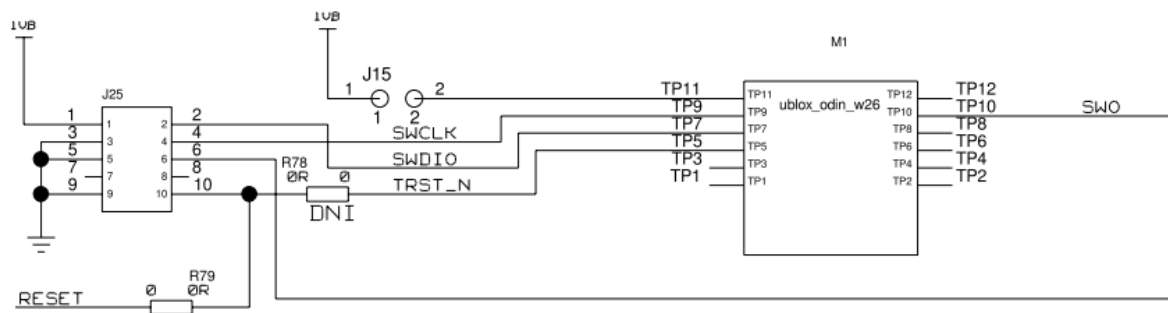

Figure 7: Example of SWD/JTAG debugger connecting to ODIN-W2 module
- Connect a debugger to the SWD/JTAG interface as specified in the pinout section (section 1.2.2) and Figure 7.